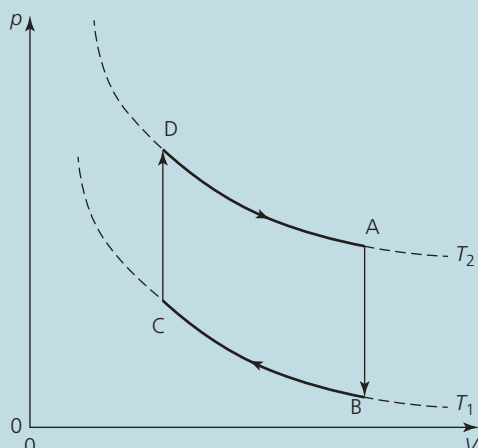

Figure 20
18. In the cycle shown in Figure 20, curves AD and BC are both isothermals.